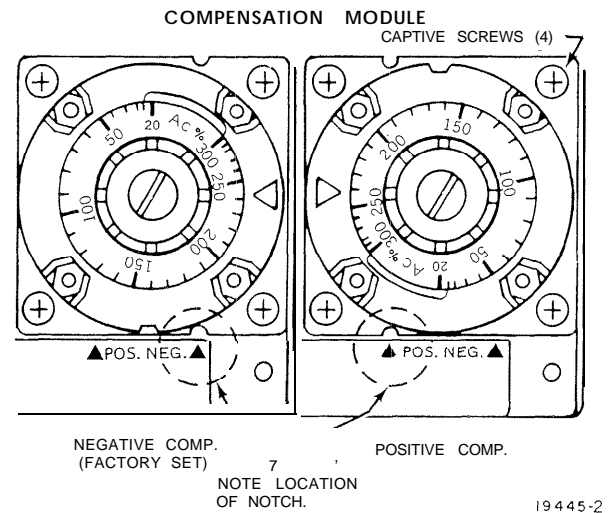

Fig. 16. Changing from Negative to Positive Compensation,
1. Loosen the four screws on the compensation module (Fig. 16).